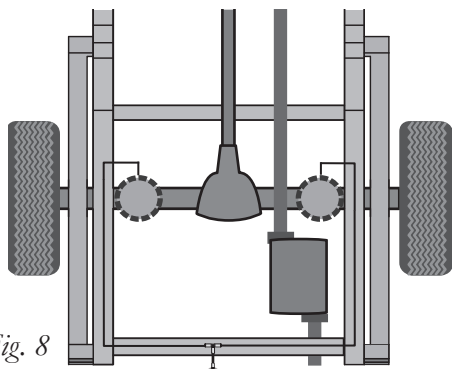
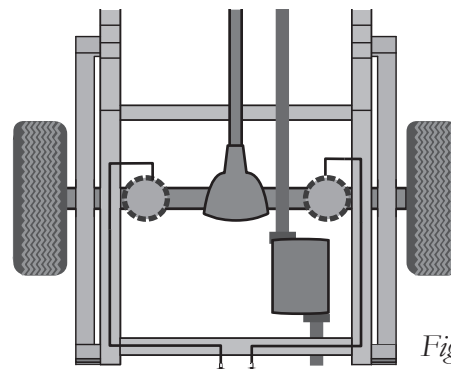

Fig. 8
Fig. 9
1. A single-path air line installation is recommended for vehicles that typically have even weight distribution (Fig. 8) weight in the vehicle varies from side to side and unequal pressures are needed to level the load, use a dual-path installation. For dual-path air line installations, eliminate the tee fitting (J) and route separate air lines for both air springs (Fig. 9).